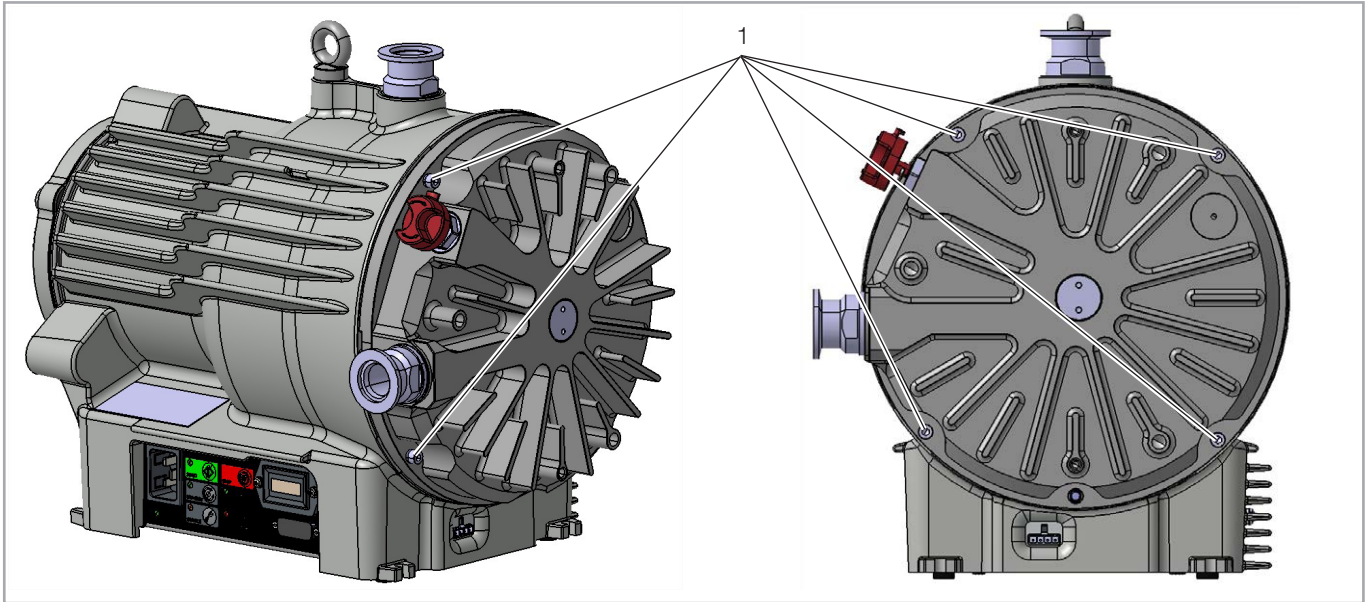

Figure 3 - Remove the fixed scroll assembly
4. Using a 4 mm Allen key, undo the four screws (Figure 3, item 1) which secure the fixed scroll assembly to the housing assembly.